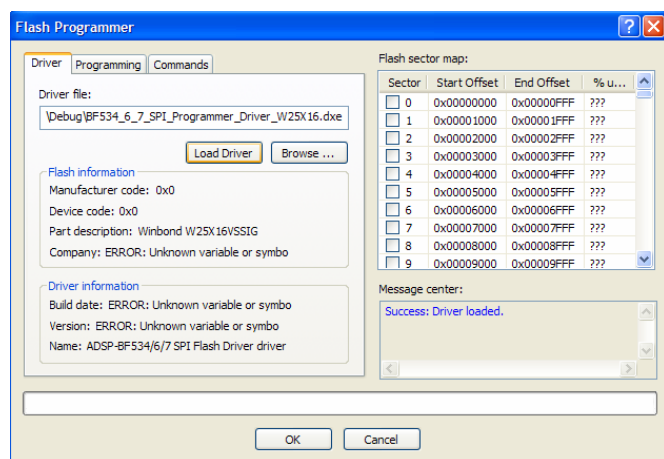

Figure 1. Loading the driver into the flash programmer plug-in
5. Verify that the driver loaded successfully. The Message Center should display “Success: Driver Loaded”, as shown in Figure 1.
The first method is to manually program sectors by sending individual commands through the Commands tab (Figure 1).
The second method of using the flash programmer utility is to program a loader file (.ldr) directly into the Winbond flash device (through the Programming tab as shown in Figure 1).